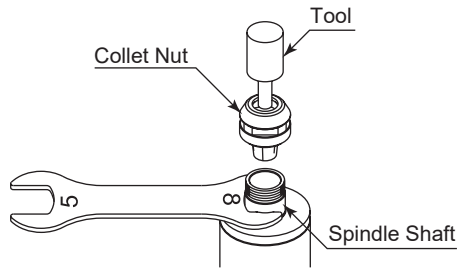

Fig. 21
- ① Remove the tool according to the section 7. "CHANGING THE TOOL" procedure above and remove collet nut assembly (Fig. 21).